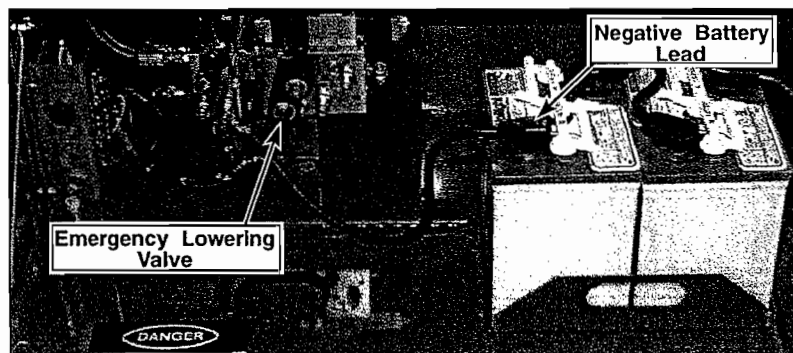

Figure 2-1: Chassis Module, Left Side
5. Close the Emergency Lowering Valve (Figure 2-1) by pushing in on the knob and turning $\frac{1}{4}$ turn clockwise until the detent engages.
6. Connect the negative battery lead terminal (Figure 2-1).
3. Disconnect the battery negative (-) lead from the battery terminal (Figure 2-1).